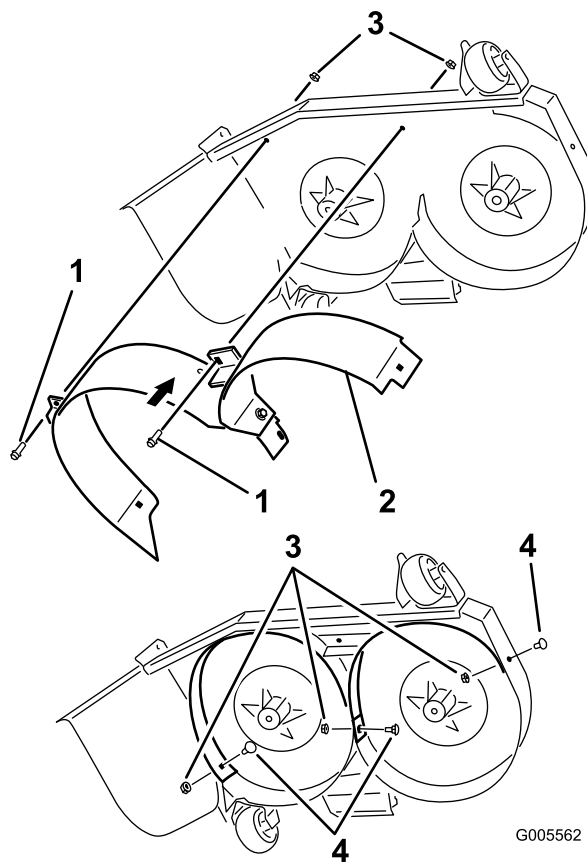

Figure 5
4. Loosely install the baffles to the top of the mower deck with 2 bolts (3/8 x 1 inch) (Figure 5).
5. Loosely install the baffles to the discharge plate with a bolt (3/8 x 3/4 inch) and a flange nut (3/8 inch) (Figure 5).
6. Loosely install the baffles to the side of the mower deck with a bolt (3/8 x 3/4 inch) and a flange nut (3/8 inch) (Figure 5).
7. Loosely install the baffles to the center of the mower deck with a bolt (3/8 x 3/4 inch) and a flange nut (3/8 inch) (Figure 5).